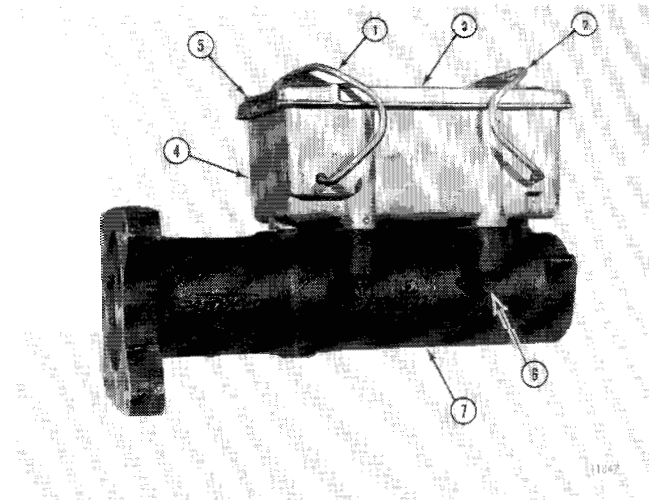

Figure 6
Swing bail wires (1 and 2, Figure 6) to the side. Remove reservoir cover (3) from reservoir (4). Drain brake fluid from reservoir.